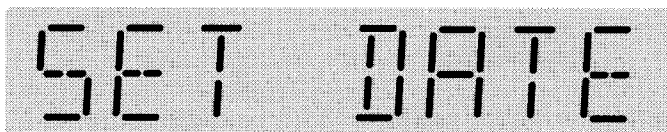

Figure 4-7 Set Date Display
- Step 3:** Continue using the **Down** or **Next** pushbutton to move to the **Set Date** display (Figure 4-7).